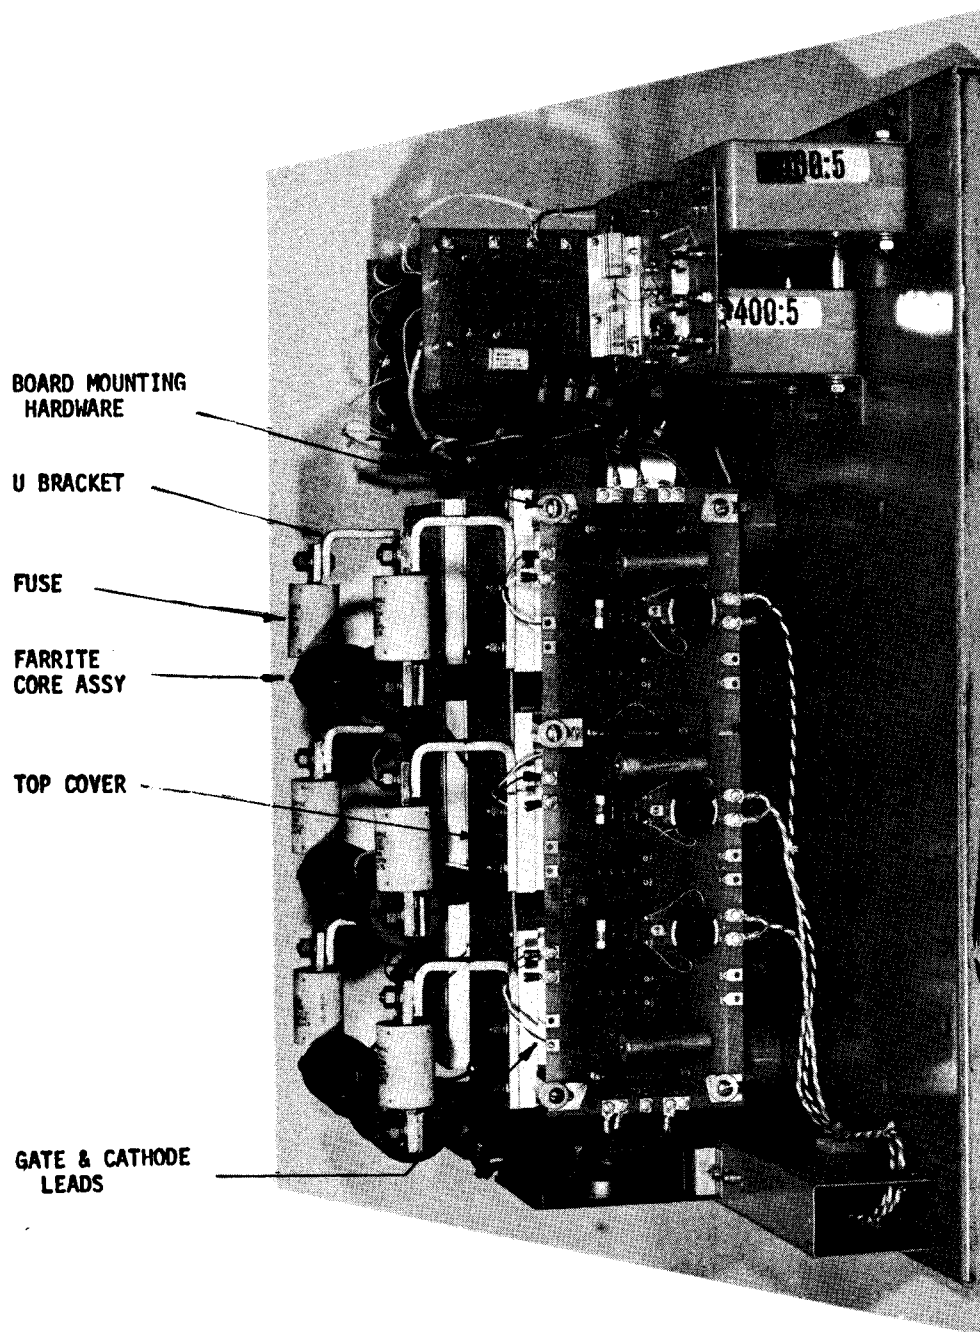

FIGURE 1
A. Replacement of Thyristor in M5B Size 2 Single Converter (See Figure 1 & 2)
B. Replacement of Thyristor in M5B Size 3 Single Converter (See Figures 1, 2, & 3).